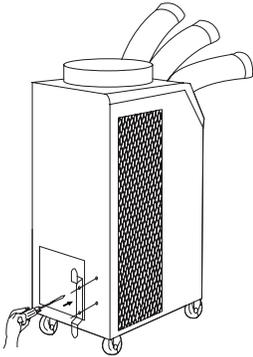

Figure 1
3. Use screws (enclosed inside of accessory box with cord holder) to install the cord holder on the air conditioner as shown in Figure 1.